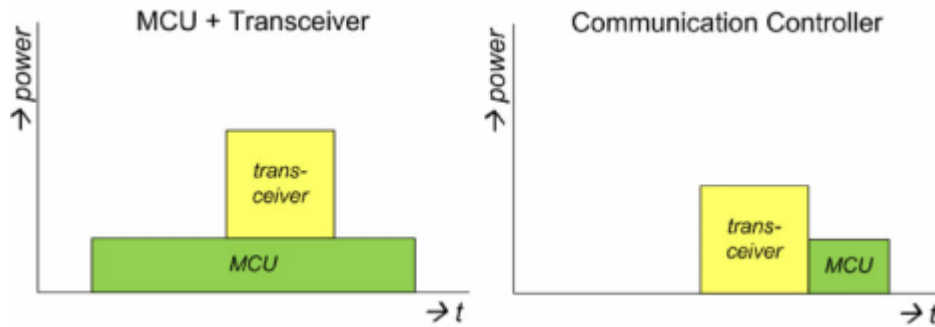

Figure 2. By letting the microprocessor sleep until it is needed, it is possible to save >65% of energy usage as compared to the typical always-on transceiver
**Figure 2** shows how, by letting the communications controller decide when to wake up and check for messages, it is possible to greatly reduce overall energy consumption. Governed by the scheduler and synchronizer components inside the communication controller, the system wakes up for a brief moment to check to see if there are any messages and then goes back to sleep.